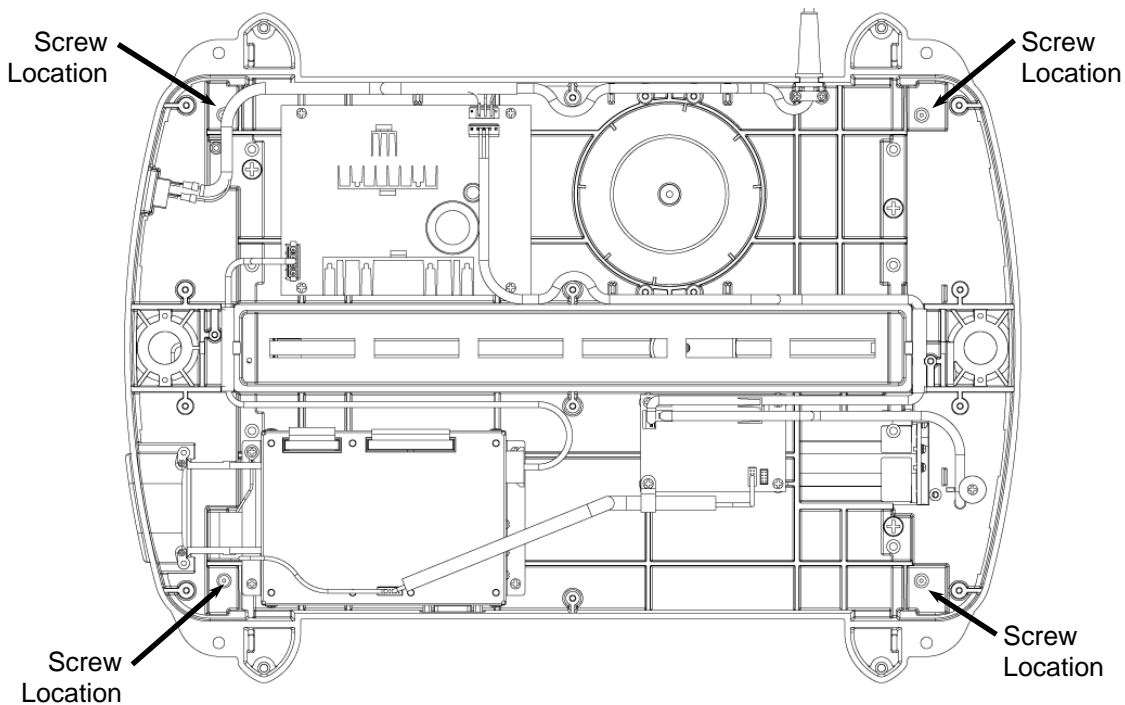

FIGURE 6: LOCATION OF BOTTOM VERTICAL GUIDE ROD SCREWS
7. **Loosen one set of bottom screws securing the vertical guide rods.** Slide one end of the machine 4 inches off the edge of the bench. It does not matter if it is the side with the keypad or the side without. This will give you sufficient room to reach to screws attaching the bottom of the vertical guide rods to the base of the machine on the overhanging side (see Figure 6). Loosen both screws attaching the bottom of the vertical guide rods to the base of the machine with the 10mm socket. **LOOSEN 1 to 2 TURNS ONLY - DO NOT REMOVE SCREWS.** Now all four screws (top and bottom) attaching the two vertical guide rods on the overhanging side are loose. This allows the head to naturally set the correct spacing for these two guide rods.